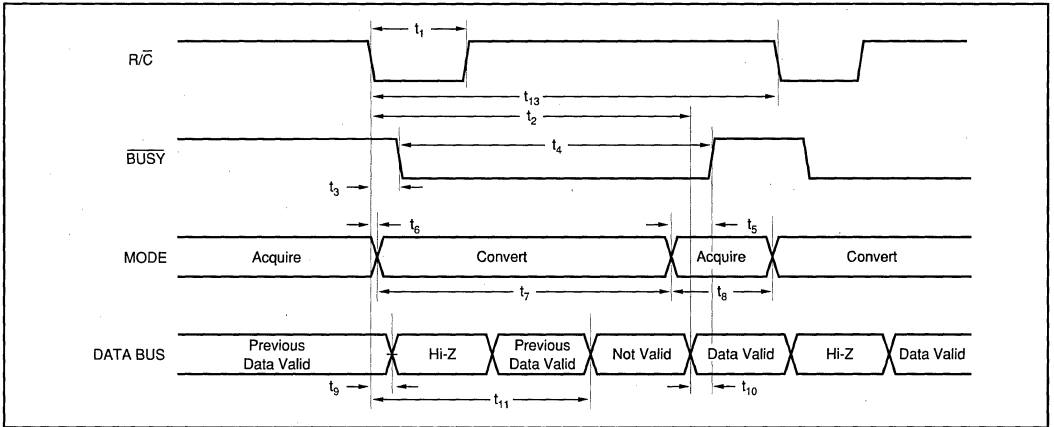

FIGURE 3. Conversion Timing with Outputs Enabled after Conversion (\overline{CS} Tied LOW.)
Table II for a summary of \overline{CS} , $\overline{R/\overline{C}}$, and \overline{BUSY} states and Figures 3 through 5 for timing diagrams.
NOTE: (1) See Figures 3 and 4 for constraints on data valid from conversion "n-1".
After conversion 'n' is completed and the output registers have been updated, \overline{BUSY} (pin 26) will go HIGH. Valid data from conversion 'n' will be available on D15-D0 (pin 6-13 and 15-22). \overline{BUSY} going HIGH can be used to latch the data. Refer to Table IV and Figures 3 and 5 for timing specifications.
After conversion 'n' has been initiated, valid data from conversion 'n-1' can be read and will be valid up to $7\mu s$ after the start of conversion 'n'. Do not attempt to read data from $7\mu s$ after the start of conversion 'n' until \overline{BUSY} (pin 26) goes HIGH; this may result in reading invalid data. Refer to Table IV and Figures 3 and 5 for timing specifications.
The number of control lines can be reduced by tying \bar{CS} LOW while using R/\bar{C} to initiate conversions and activate the output mode of the converter. See Figure 3.